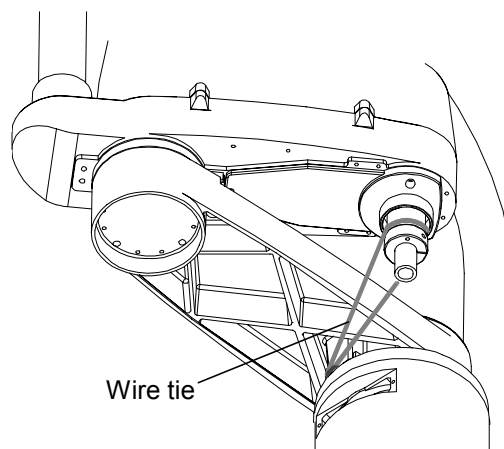

Figure 5. Cut the wire tie
- (4) Gently push Arm #1 in the minus direction (clockwise direction) until it touches the previous bolt.
- (5) Gently push Arm #2 in the plus direction (counterclockwise direction) until it touches the mechanical stop. Tie the bottom of the shaft to the arm retaining bracket with a wire tie. (See *Figure 5.*) Be careful not to tie too tight. It may bend the shaft.
- (6) To prevent the manipulator from falling, hold the arm #1 with the hand and remove the manipulator from the base table.